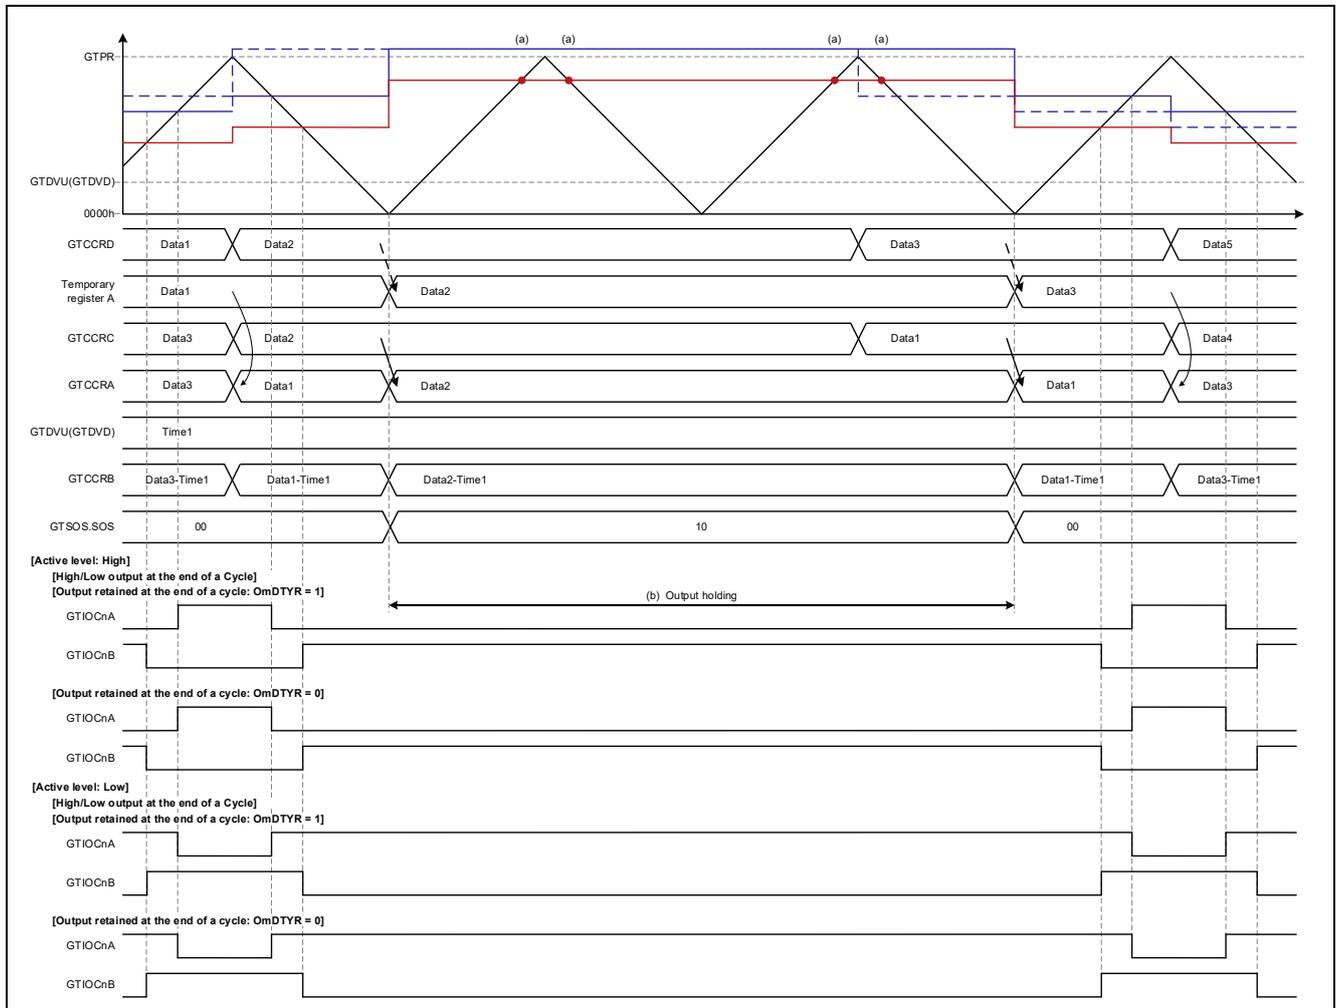

Figure 1.105 Triangle-Wave PWM Mode 3 Operation Example
- Operation Example 6: Figure 1.105 Triangle-Wave PWM Mode 3, Abnormal Value (Transfer at Trough)/Normal Value (Transfer at Trough)
Figure 1.105 shows an operation example of transfer of a value exceeding GTPR to GTCCRA via buffer transfer at trough and return via buffer transfer at trough of a normal value in triangle-wave PWM mode 3.